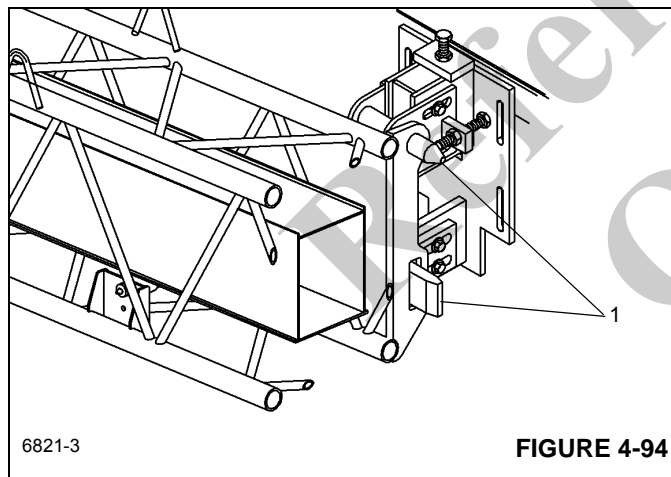
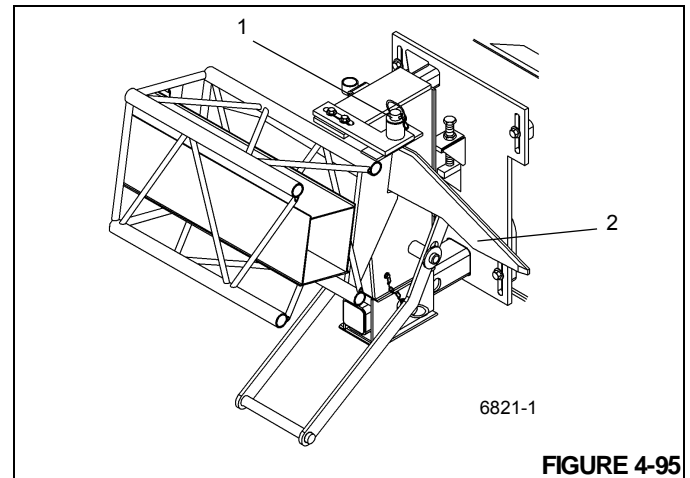

FIGURE 4-94
FIGURE 4-95
8. Extend the boom approximately 51 to 64 cm (20 to 25"). Make certain that the boom extension stowage lugs will line up in front of the guide pins (Figure 4-94, 1) and ramp (Figure 4-95, 2) on the stowage brackets when the boom extension is positioned to the side of the boom.
9. Ensure the hitch pin and clip pin (Figure 4-95, 1) are removed from the rear stowage bracket.
11. Align the stowage lugs on the boom extension with the guide pins and ramp (Figure 4-95, 2) on the stowage brackets and fully retract the boom.
12. Install the hitch pin and clip pin (Figure 4-95, 1) securing the boom extension to the rear stowage bracket.